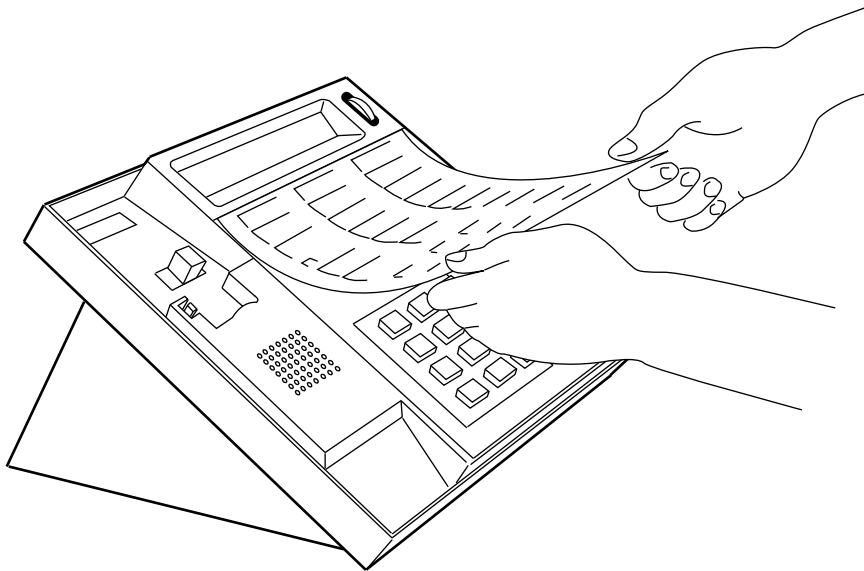

FIGURE 6-11. 7505/ 7506: Replacing the Designation Card and the Faceplate
5. Position the faceplate card over the button-designation card. Taking both, slip the top under the bezel edge; then position them over the dial pad and drop in place. See Figure 6-11.